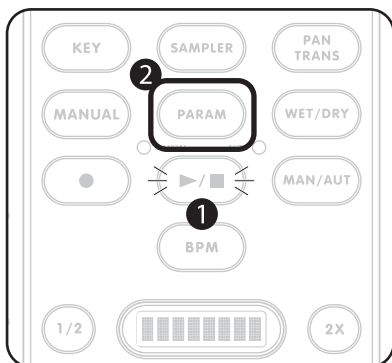

Figure 4.30
When a sample is playing, the PLAY/STOP button will blink Figure 4.30 (1). There are 2 modes for sample playback – LOOP or ONE SHOT. To verify in which mode the sampler is currently in or to select the sample playback mode press the PARAM button (2).